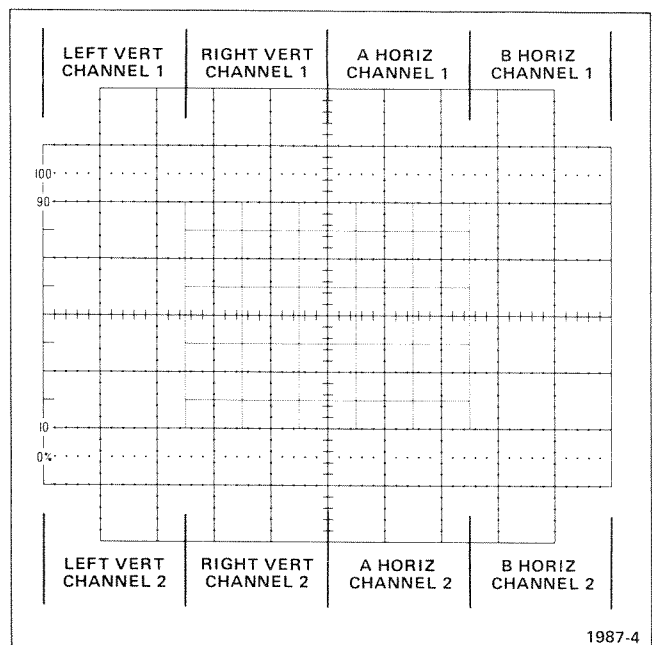
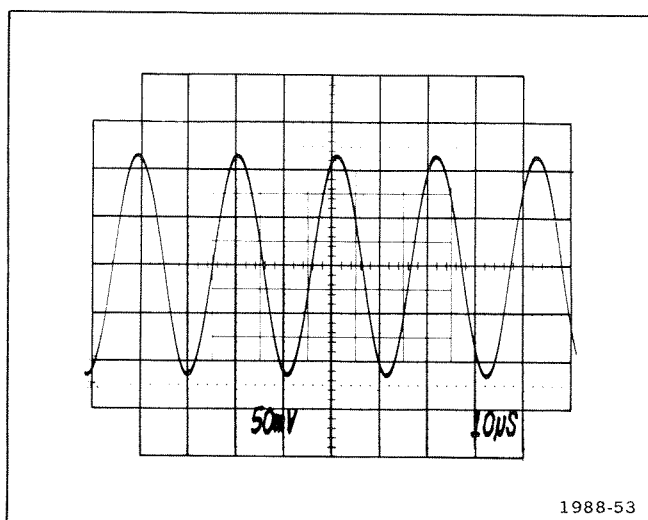

Figure 3-26. Location of readout display on the crt identifying the originating plug-in and channel.
Figure 3-28. Typical readout display where only Channel 2 of the Right Vertical and B Horizontal units is displayed.
Frame—A display of all words for a given operating mode and plug-in combination. Up to 8 words can be displayed in one frame. Figure 3-26 shows the position of each word in a complete frame.
Up to 8 words of readout information can be displayed on the crt. The position of each word is fixed and is directly related to the plug-in unit from which it originated. Figure 3-26 shows the area of the graticule where the readout from each plug-in unit is displayed. Notice that Channel 1 of each plug-in unit is displayed within the top division of the crt, and Channel 2 is displayed directly below within the bottom division. Figure 3-28 shows a typical display where only Channel 2 of the Right Vertical and B Horizontal units is selected for display.
The Format Generator stage provides the output signals to the vertical and horizontal deflection systems of the instrument to produce the character display. The binary Channel Address Code from the Channel Counter stage is connected to this stage, so that the display from each channel is positioned to the area of the crt associated with the plug-in and channel originating the word (see Fig. 3-26). The positioning current or decimal point location current generated by the Decimal Point Logic and Character Position Counter stage is added to the Horizontal (X) signal at the input to the Format Generator stage to provide horizontal positioning of the characters within each word. The X- and Y-Readout signals are connected to the Horizontal Amplifier and Vertical Amplifier through the X- and Y-Buffer stages.